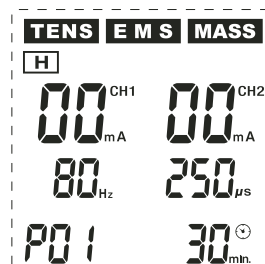

Fig. 8
- ⑰ **(H)**: Special programmes for the **hand** (see Fig. 8)
After one of these keys has been pressed, information with the corresponding letter appears on the display (e. g. **H** if the key **(H)** was pressed), as shown in Fig. 8.